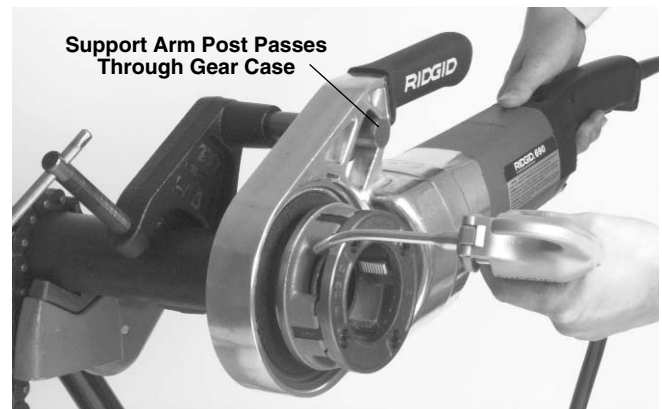

Figure 7 – Threading Pipe and Applying Oil
- Simultaneously actuate the ON/OFF switch and exert pressure against the Die Head with the palm of free hand to assist in starting thread. Apply plenty of thread cutting oil to the dies during threading. This will reduce the torque required to thread and improve the thread quality (*Figure 7*).